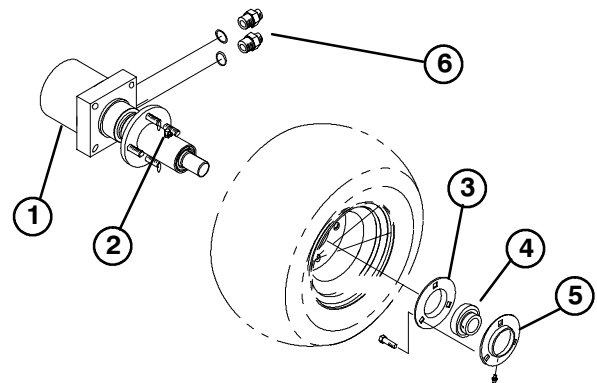

Figure 1
1. Remove grease fitting from motor and hub assembly (Fig. 1).
2. Mount tire assembly to motor and hub assembly with (4) lug nuts. Torque lug nuts to 70-90 ft-lbs.
5. Mount (2) straight fittings to side of motor assembly (Fig. 1).